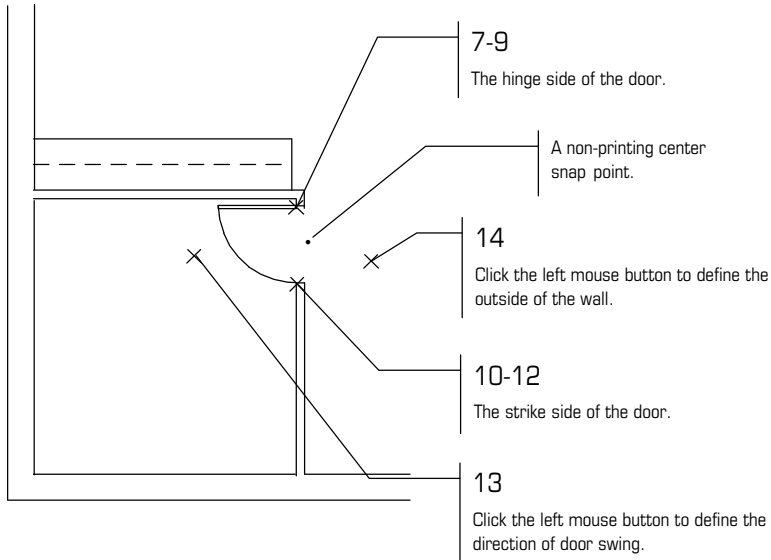

**Figure 3.35:** Setting a reference point.
6. Click the middle mouse button near the upper-right corner of the first room you drew, as shown in Figure 3.35. Stay close to the inside of the corner. This will be your reference point. You are prompted to *Select hinge side of door*.